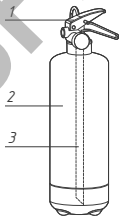

Figure 1
2.1 Fire extinguisher design is shown in the Figure 1.